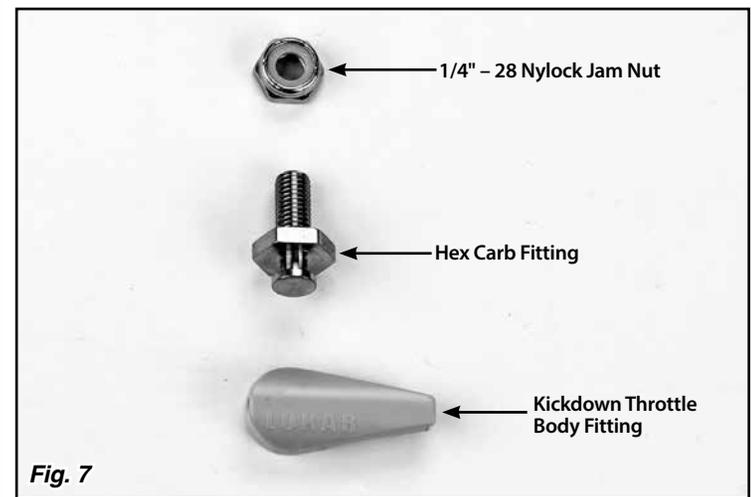

Fig. 7
Step 9: The tear drop will be attached to the throttle arm by the hex carb fitting. Separate the hex carb fitting from the kickdown throttle body fitting as shown in **Fig. 7**. Install the tear drop with the hex carb fitting and the 1/4"-28 nylock jam nut onto the throttle arm. Hook the springs to the tear drop and tighten the nylock jam nut. **Fig. 8** Then, back the nut off just enough so the tear drop can rotate freely.